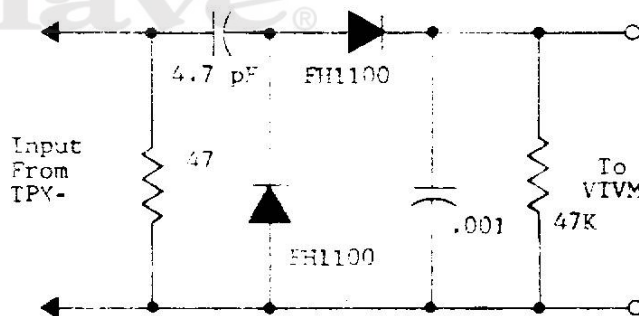

Figure 4-8. Detector Assembly
6. Connect detector assembly (Figure 4-8) to junction L314, L315, and L316 (TPX-5); then, adjust C329 and C333 for maximum meter reading.